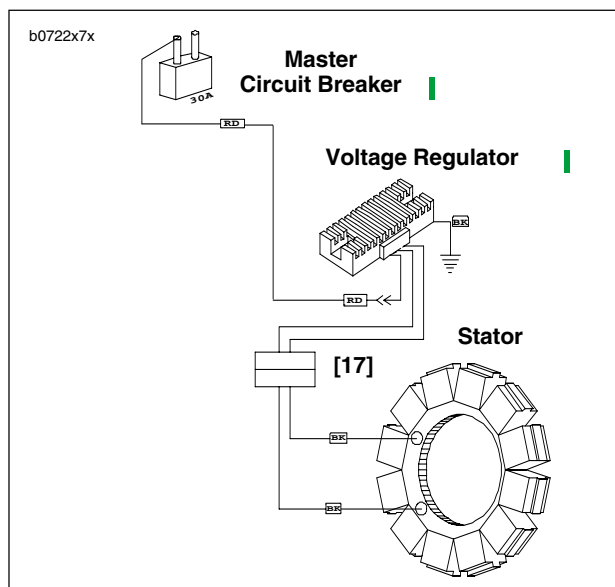

Figure 7-48. Voltage Regulator Connector [17]
- b. See Figure 7-48. Disconnect BK charging wire from gold post of main circuit breaker.